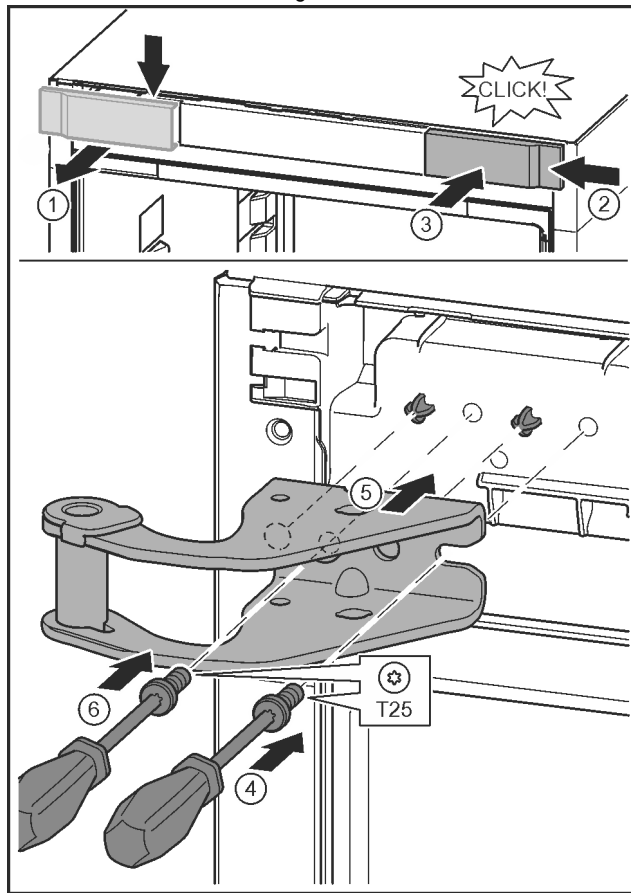

Fig. 15
- ▶ Release the cover and remove from the side. Fig. 15 (1)
- ▶ Rotate the cover 180° and clip onto the other side from the right. Fig. 15 (2)
- ▶ Click the cover into place. Fig. 15 (3)
- ▶ Position the screw with a T25 screwdriver. Fig. 15 (4)
- ▶ Position the upper bearing bracket. Fig. 15 (5)
- ▶ Tighten the screw. Fig. 15 (4)
- ▶ Insert the screw with a T25 screwdriver and tighten. Fig. 15 (6)